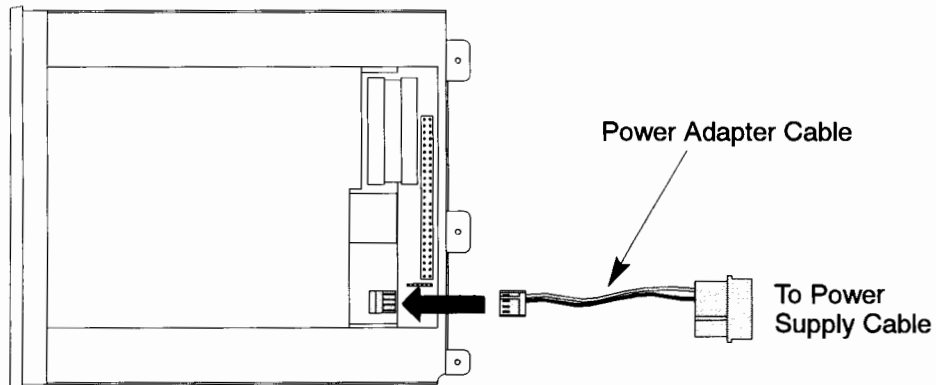
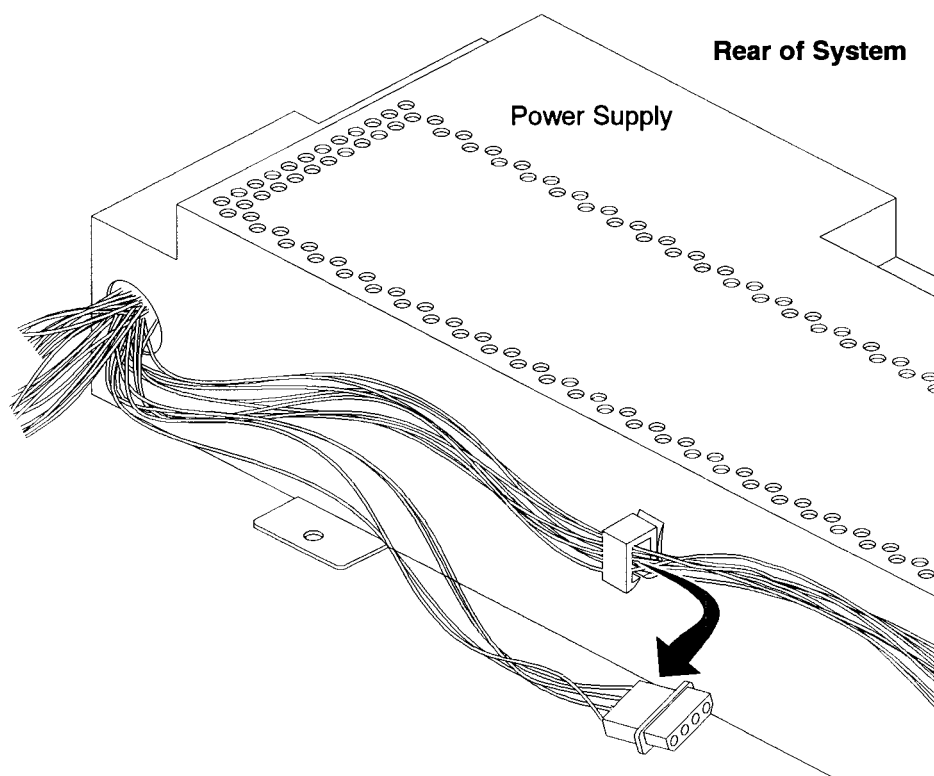

Figure B-10. Power Adapter Cable
Figure B-12. Power Supply Connector
6. If not already connected, plug the small end of the 2-wire power adapter cable into the floppy power connector, as shown in Figure B-10. Line up the pins on the connectors and press in firmly until you hear a click.
8. Remove the power supply connector from the cable clip on the power supply, as shown in Figure B-12. Plug it into the large end of the 2-wire power adapter cable on the floppy drive, as shown earlier in Figure B-10.